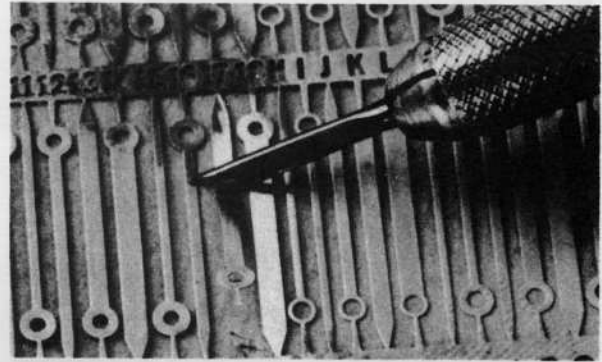

FIGURE 8. CUTTING THE TRAK-PAD TRACK
STEP 6—Cut the prepared TRAK-PAD from the “Selector Frame” leaving sufficient length so that the track overlaps the conductor a minimum of $\frac{1}{8}$ ” (see Figure 8).